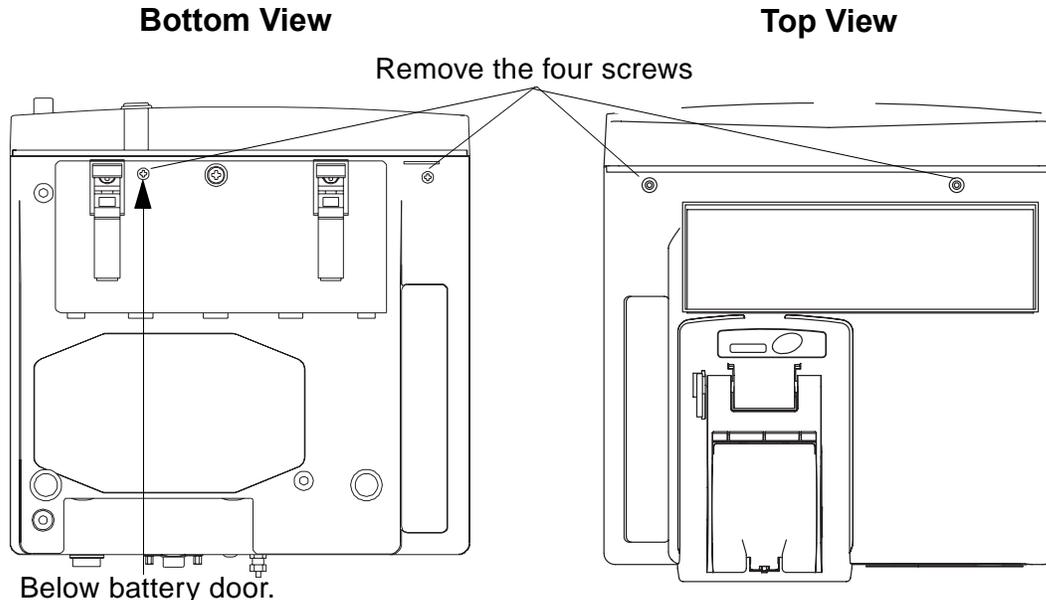

Figure 7-13: Remove the Front Bezel
8. Remove the four Phillips screws that hold the bezel to the chassis—two at the top and two at the bottom. (See "Figure 7-13: Remove the Front Bezel".)